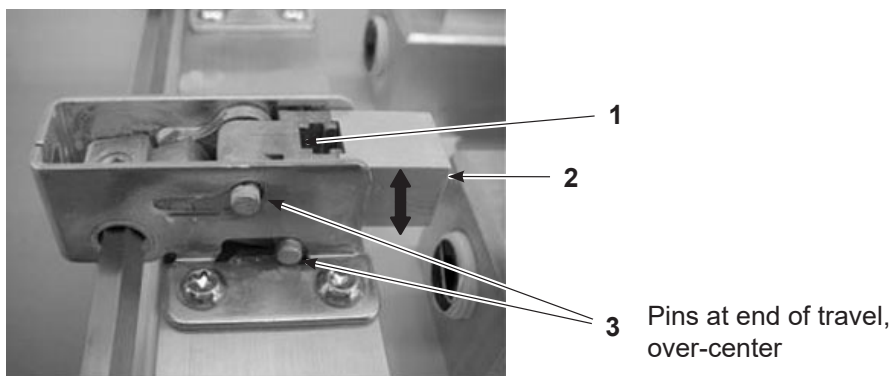

Figure 8-5 Pawl Adjustment - Latch Shown Over-Center
Figure 8-5 shows a latch extended until it is over-center. The latch pawl (2) is normally installed with the top surface flush with the top surface of the pawl mount (1). With the lance clamped down, the latch should not go over-center (fully extended). The latch pins (3) should not be up against the ends of their slots.